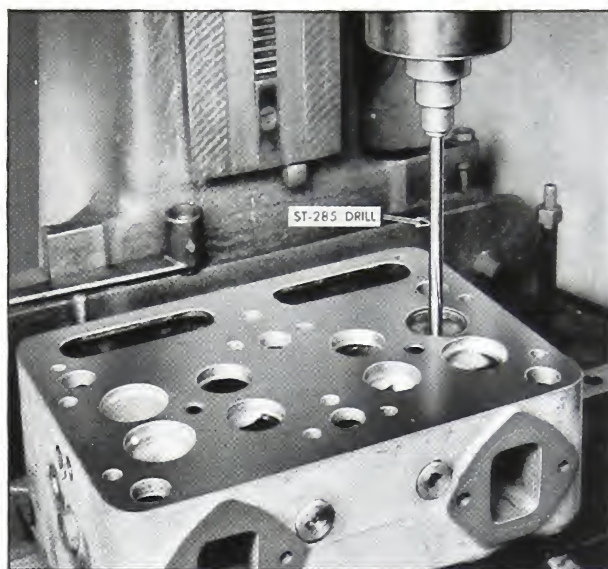

Fig. 3-9. Reaming valve guides
2. Use special carboloy inserted piloted reamer, ST-284, to ream Model H valve guides, or ST-285 for Model NH guides in a drill press and preferably with a floating tool holder. Always ream from the milled, or bottom, side of the cylinder head. The top of the head must be supported on parallels instead of the studs. Reaming from the bottom of the head provides for more clearance at the part of the valve stem that gets hottest. (Fig. 3-9).